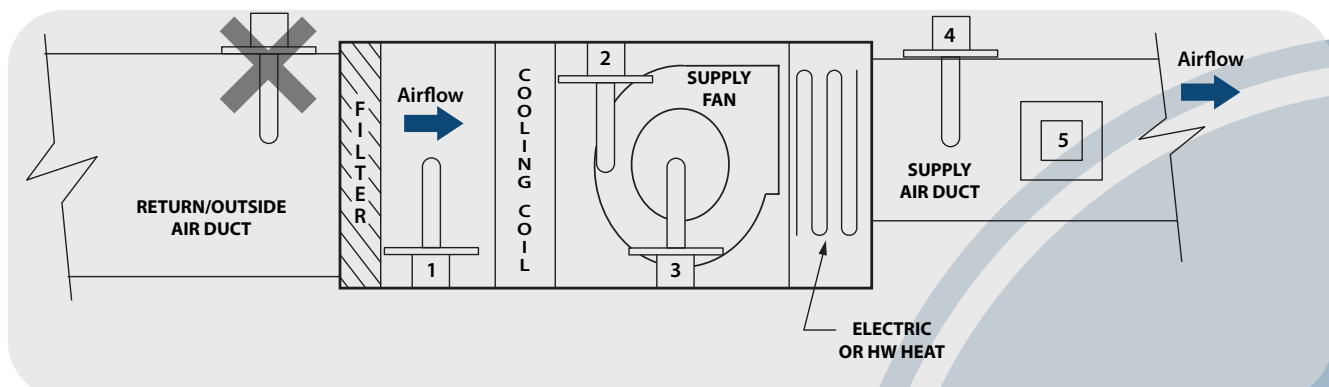

Figure 2
Step 4. If the ionizer cannot be installed in the supply duct due to temperature limitations or it's not easily accessible for tube replacement, the ionizers can be mounted inside the AHU or RTU using an "L" shaped bracket available from many hardware suppliers. See Figure 2 for alternate locations. Be sure to select a location within the air handling unit where there is good airflow. One such location is immediately adjacent to the fan inlet.